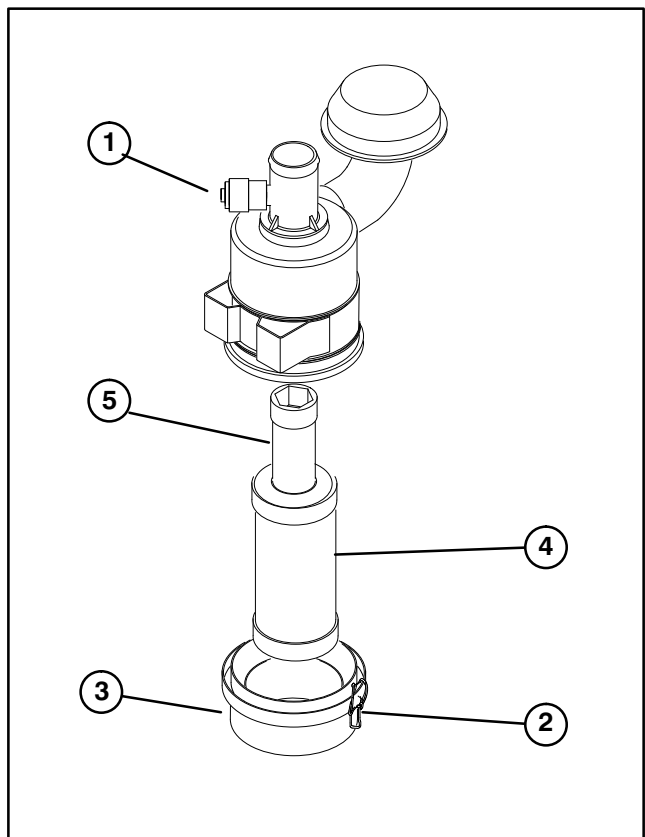

Figure 32
2. Service the air cleaner filters when ever air cleaner indicator (Fig. 32) shows red or every 400 hours (more frequently in extreme dusty or dirty conditions). Do not over service air filter.
2. Gently slide primary filter (Fig. 32) out of air cleaner body to reduce the amount of dust dislodged. Avoid knocking filter against air cleaner body. **Do not remove safety filter.**
8. Reset indicator (Fig. 32) if showing red.